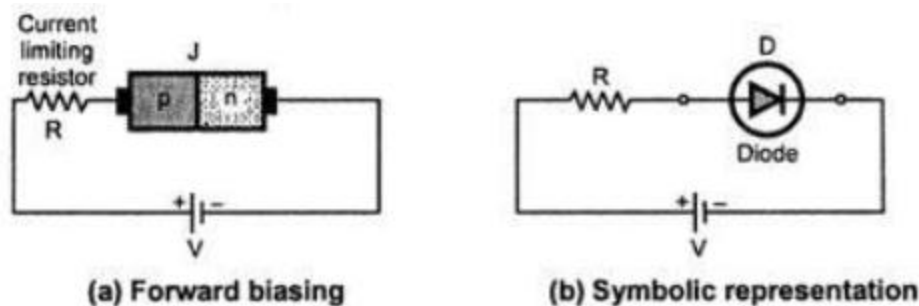

Fig. 1.4 Forward biasing of PN Junction Diode
- The Fig. 1.4 (a) shows the connection of forward biasing of a p-n junction.
- The Fig. 1.4 (b) shows the symbolic representation of a forward biased diode.